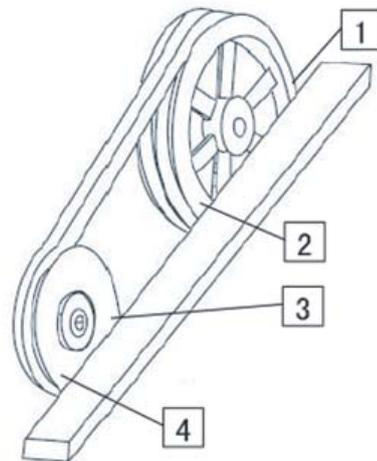

Fig. 10-3
■ life of belt. Every time after belt adjustment, you should check if positions of the 2 pulleys are correct, refer to figure 10-3, you can put a ruler on the same side of 2 pulleys to check if positions of 2 pulleys are correct. Check if point 1, point 2, point 3 and point 4 are in the same plane. If not, you can loosen fixed screws of fan pulleys and along the fan axle to slide fan pulleys. Loosen motor to adjust the angle on the fan slide way. Adjust to straightness ≤ 2mm.